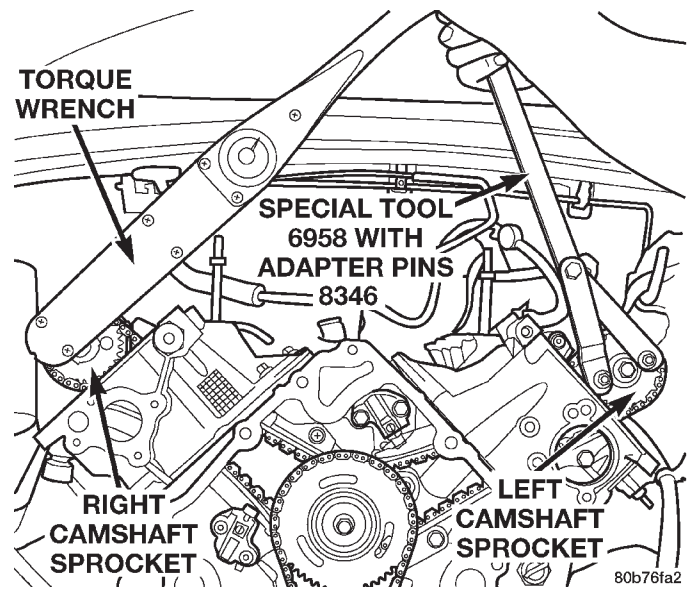

Fig. 89 Tightening Right Side Cam Sprocket Retaining Bolt
- (10) Using Special Tool 6958 spanner wrench with adapter pins 8346 (Fig. 89), torque the camshaft sprocket retaining bolt to 122 N·m (90 ft. lbs.).